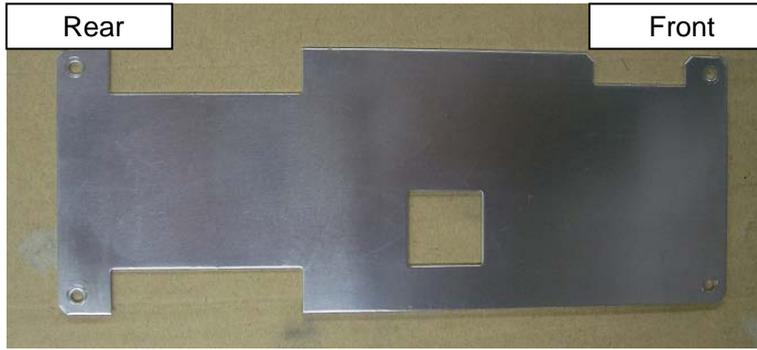
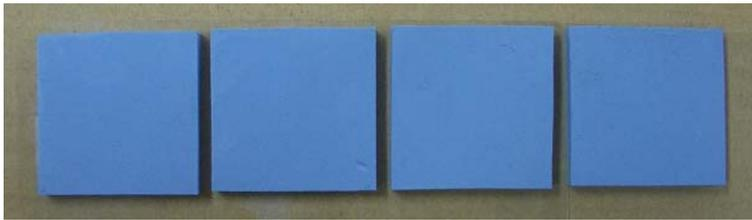
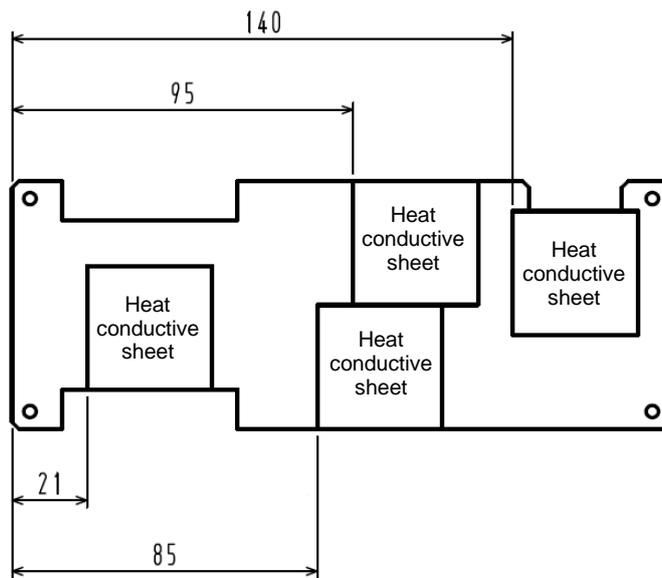

Fig. 26 Shield
Fig. 27 Heat conductive sheets (4)
Fig. 28 Heat conductive sheet locations (in mm.)
5. Attach 4 heat conductive sheets (Fig. 27) to the supplied shield (Fig. 26) as shown in Figs 28 and 29.